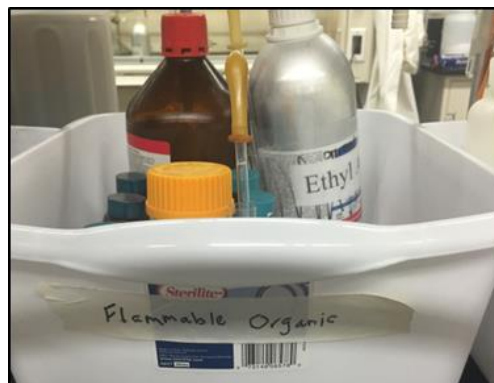

Figure 3: Secondary containers labeled with chemical names are in a bin labeled with hazard
3. Work Area Labeling (e.g. Figures 3 and 4)
- Many sample vials with the same hazard which makes labeling is impractical (e.g. Figure 3)